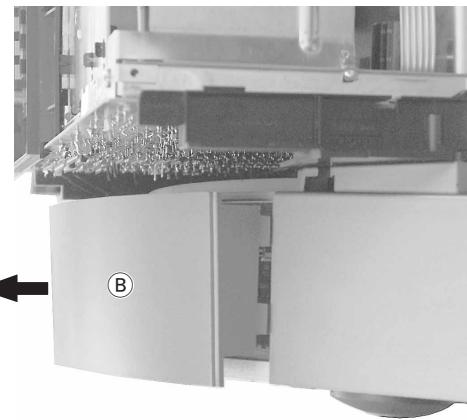
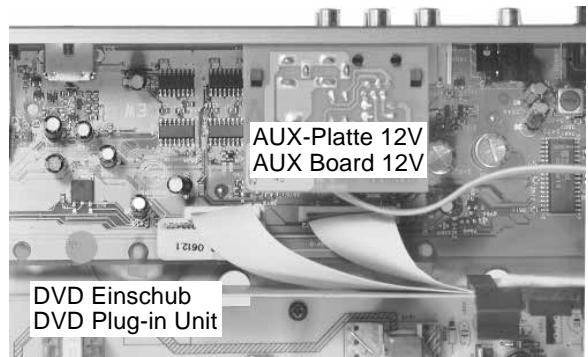
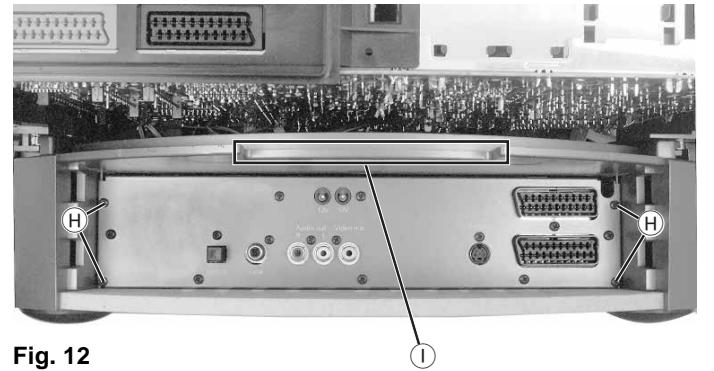

Fig. 4
Fig. 13
Fig. 12
- Das EURO-AV-Kabel in die Aussparung ① (Fig. 12) im TV-Gerätesockel verlegen und die TV-Gerätesockelabdeckung ② (Fig. 4) montieren.
- Carefully tilt the TV set to the front and pull off from below toward the back the TV base cover ② (Fig. 4).
- Undo the 4 screws ⑧ (Fig. 12) and carefully remove the sheet-metal cover together with the "AUX board 12V". If necessary disengage the two-pin connector ST-FF1 on the "AUX board 12V". Unscrew the "AUX board 12V" from the sheet-metal cover. Refit the connector ST-FF1 and fit the "AUX board 12V" correctly positioned into the DVD plug-in unit (the two 12V sockets on the "AUX board 12V" must coincide with the openings in the sheet-metal cover) (Fig. 13).
- Pull out the chassis only so far that the leads can be pulled toward the top through the front opening in the TV set base when sliding in the DVD plug-in unit. Fix the DVD plug-in unit with the 4 screws ⑨ (Fig. 12).
- Install the EURO-AV cable in the opening ⑯ (Fig. 12) in the TV base then fit the TV base cover ⑰ (Fig. 4) .